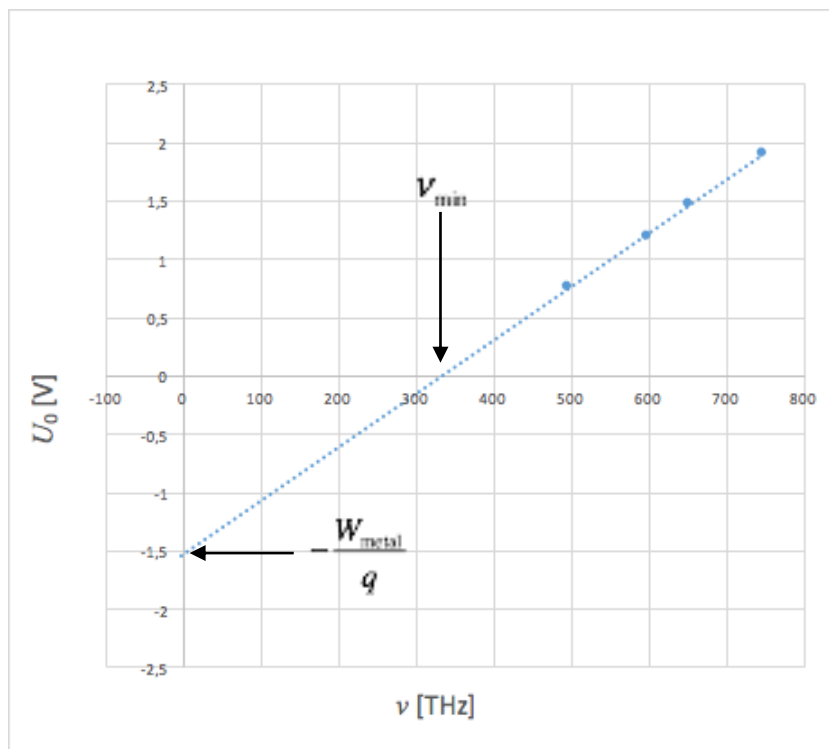

FIG. 3.
At any wavelength of the light the current – voltage characteristics could be measured. Based on them the switch-off potential versus light's frequency plot is obtainable, see Fig. 3. The axis' intersections result the work function of the cathode's material and the minima value of light frequency resulting electron's release.
8. The work-function of the cathode material and the limit frequency to be calculated, according to Fig. 3.